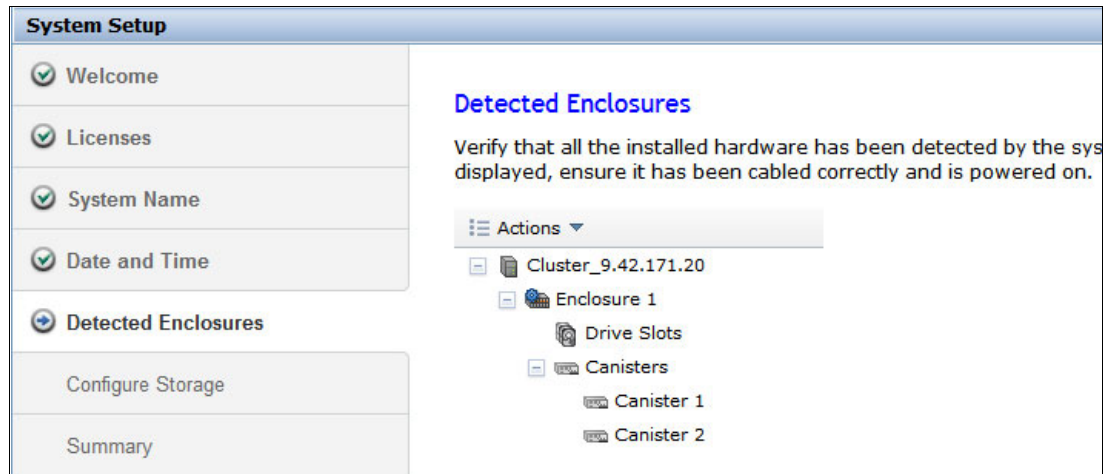

Figure 6-131 Verify hardware
- Verify that all hardware is detected by the system correctly as shown in Figure 6-131. Click **Apply** and select **Next**.